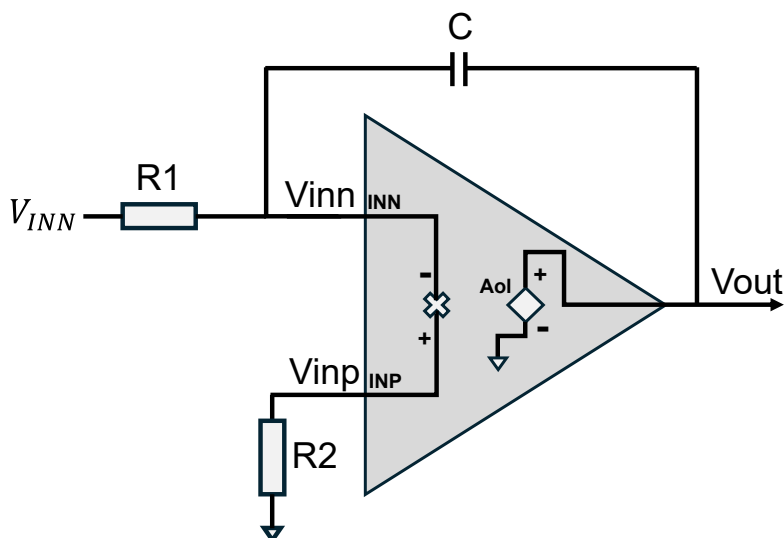

Figure 7. Integral circuit of OPAMP
Figure 7 shows the integral circuit of OPAMP. Based on the principle of OPAMP, derive Equation (22) as follows: